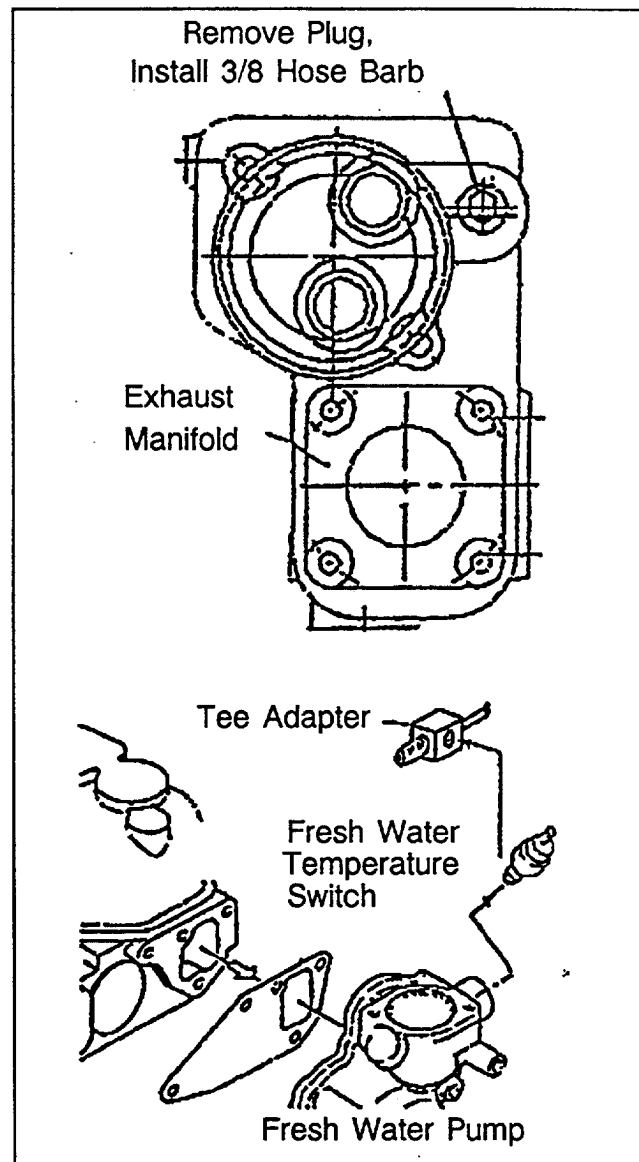

Figure 2.
- a. Remove plug on fresh water tank. See Figure 2.